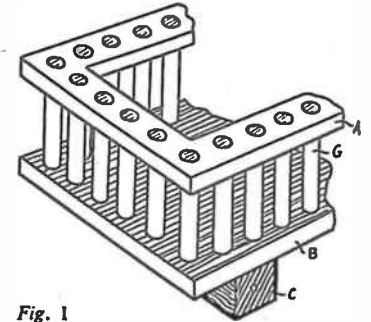

Fig. 1
Glue all joints. The holes to take the upright dowels are drilled at intervals of approximately 1/4 in. It is advisable to drill them in piece (A) before cutting out the centre. Assemble the wagon as shown in Fig. 1, using glue for all the joints. Fig. 1 also